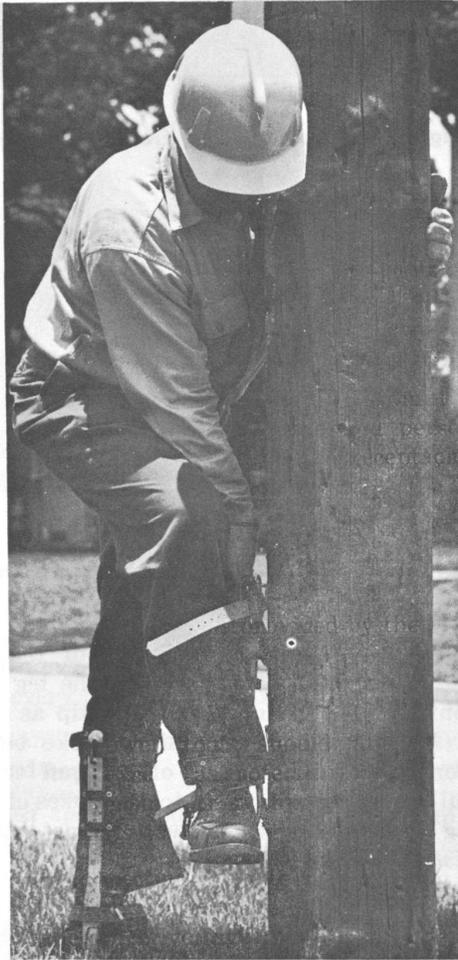

Fig. 15 – Climber Holding
3. Keeping just enough pressure on the stirrup to keep the gaff in the pole, but not so much as to cause the gaff to penetrate any deeper, push the climber and your hand toward the pole by moving your knee until the strap loop of sleeve is against the pole as shown in Fig. 15.